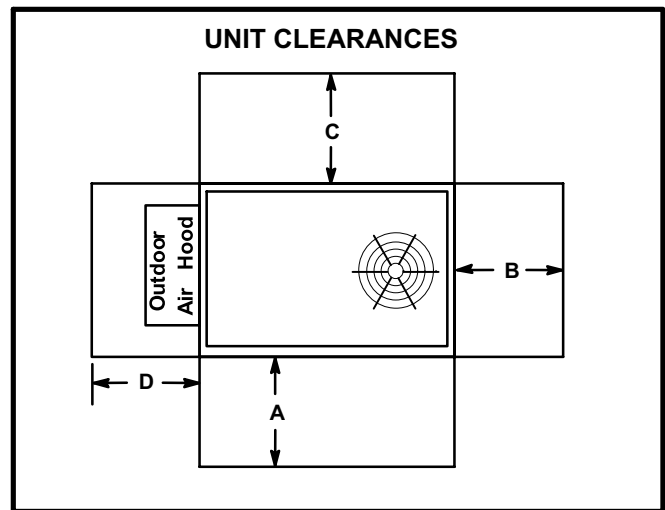

FIGURE 1
The KDB unit is ETL/CSA certified for outdoor installations only at the clearances to combustible materials listed on unit nameplate and in figure 1.
The KDB unit is ETL/CSA certified as a dual fuel heat pump with cooling and auxiliary gas heat for non-residential use only at the clearances to combustible materials as listed on the unit nameplate and in figure 1.
- 2- Specified installation clearances must be maintained when installing units. Refer to figure 1.